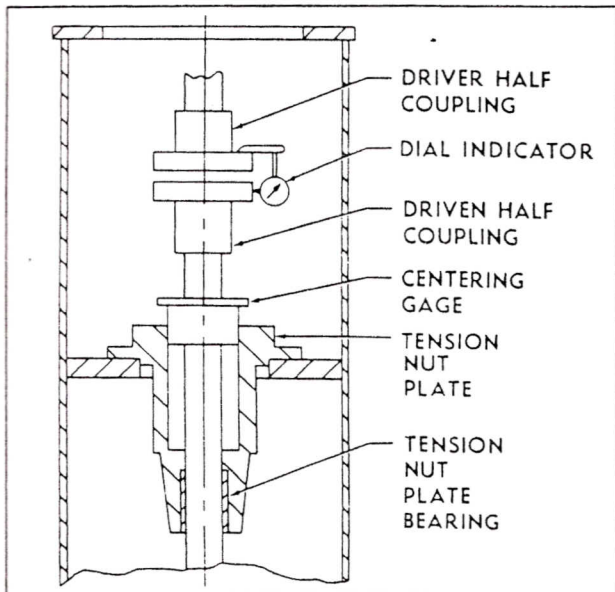

Figure 3-5. Centering Gage
- h. For pumps of standard construction insert several strips of shim stock approximately .003" thick between shaft and tension bearing to center and steady the shaft. For pumps with auxiliary stuffing box, remove packing and gland and insert centering gage in tension nut plate (figure 3-5).